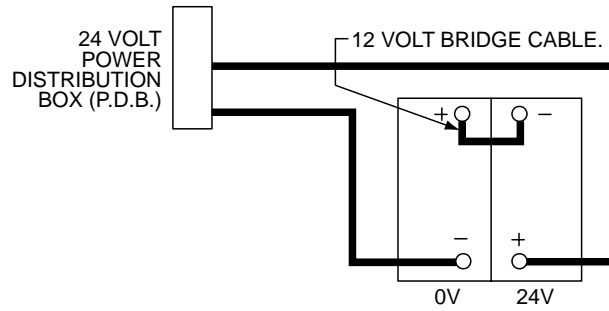

Figure 6 Batteries – Installation
- a. Disconnect the batteries, negative terminals first, then disconnect the positive terminals (Figure 6).
- h. Connect the battery cables as shown in Figure 6, and stow the battery carrier. Secure the carrier with the security clip and pin.